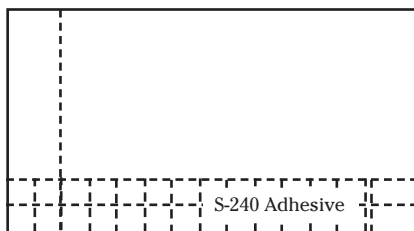

Fig. 5
3. Apply the S-240 Epoxy Adhesive in 2' or 3' bands (Fig. 5), being careful not to cover the chalk lines. Do not apply more adhesive than you can cover within 20 minutes. Immediately back roll the S-240 Epoxy Adhesive with the supplied paint roller. Allowing a 10-minute open time and fitting the border tile tightly will reduce tile shifting and adhesive oozing. **DO NOT** allow the adhesive to dry completely.